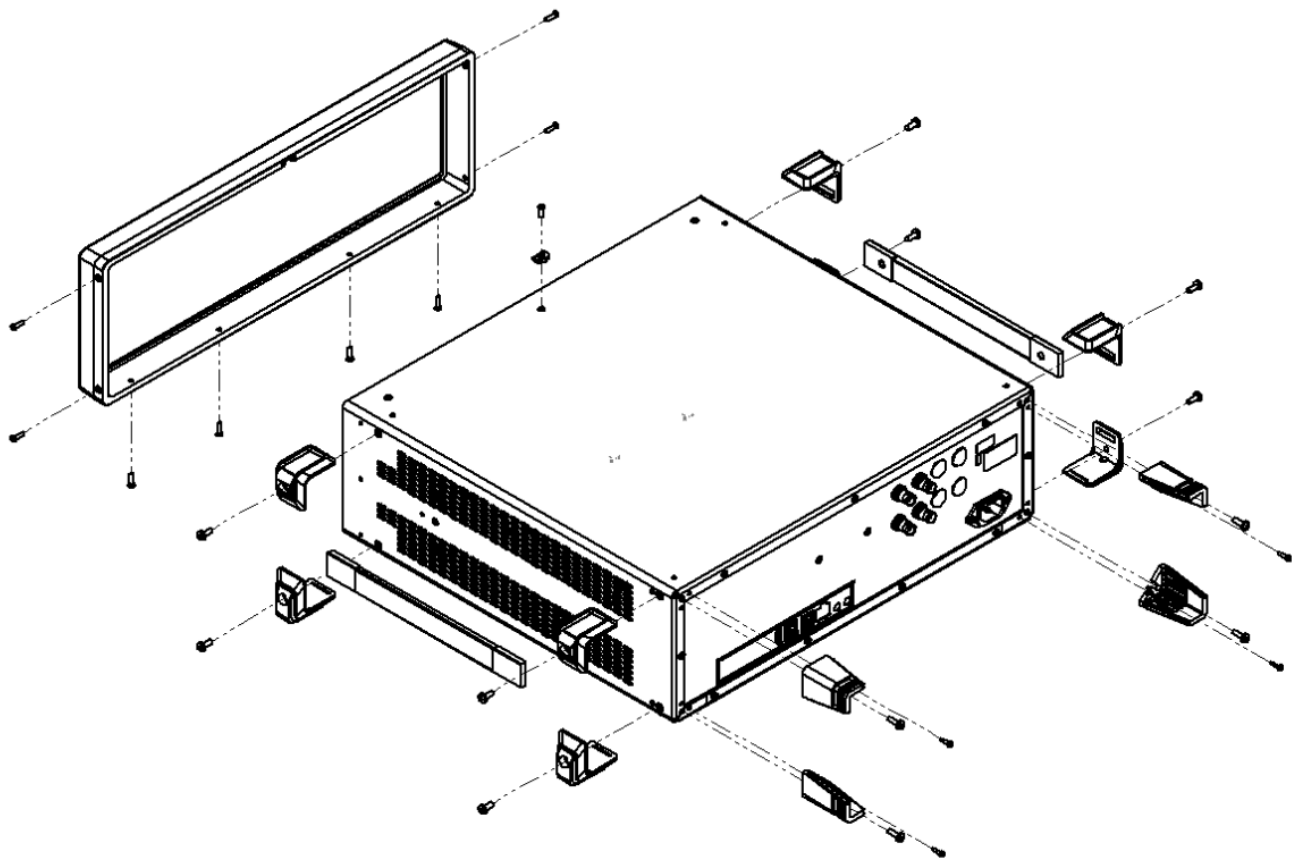

Figure C-1. Removing Instrument Handles and Feet for Rack Mount
3. Using a Phillips screwdriver, remove the front shroud, feet, and handles from the instrument (see Figure C-1). Save the screws for later use.